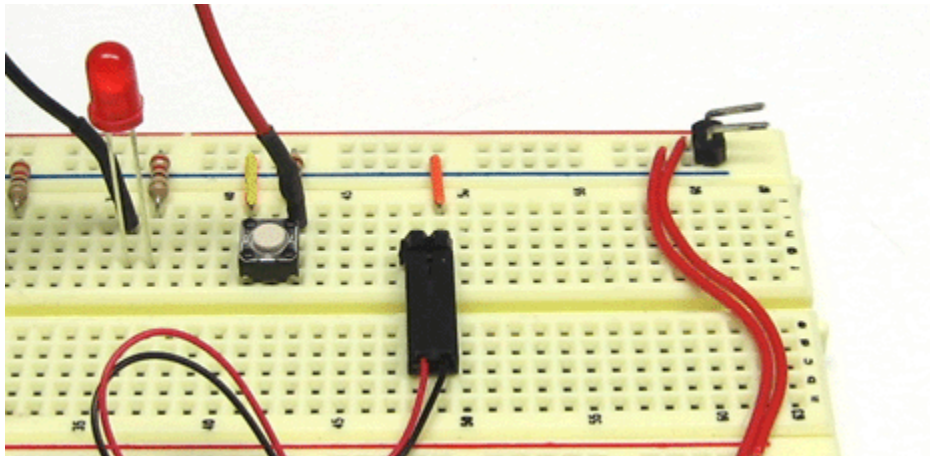

Figure 3. Adding the speaker.
1. Add a two-prong connector, an orange jump wire, and the speaker to the breadboard, as shown in Figure 3. **NOTE: Be sure to align the black speaker wire with the jump wire to ground.**